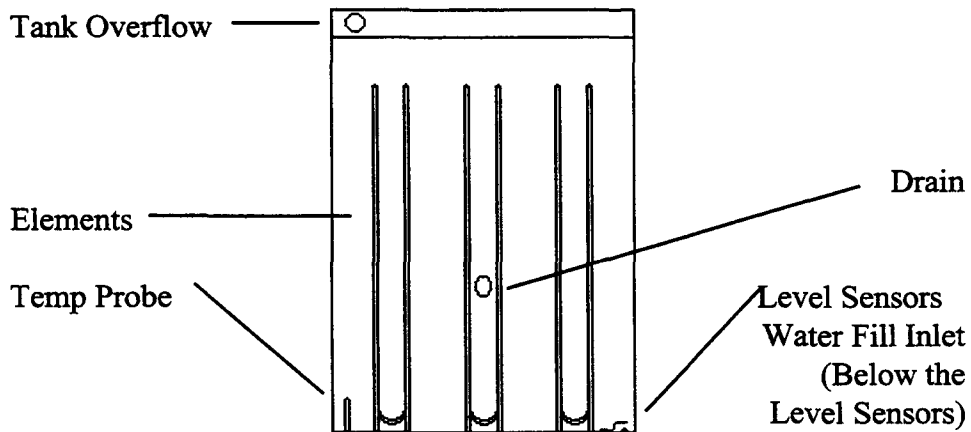

Figure 1: Component Locations, Inside Tank
- b. Check all of the nuts that hold the sensor brackets in place. Ensure that the mounting screws and nuts are tight to prevent them from coming loose during operation. Figure 1 shows the location of the Temperature probe, and the Water Level sensors. Also shown are the over flow stand pipe and the water entry nozzle. Look down inside the Rethermalizer tanks to see the probes.